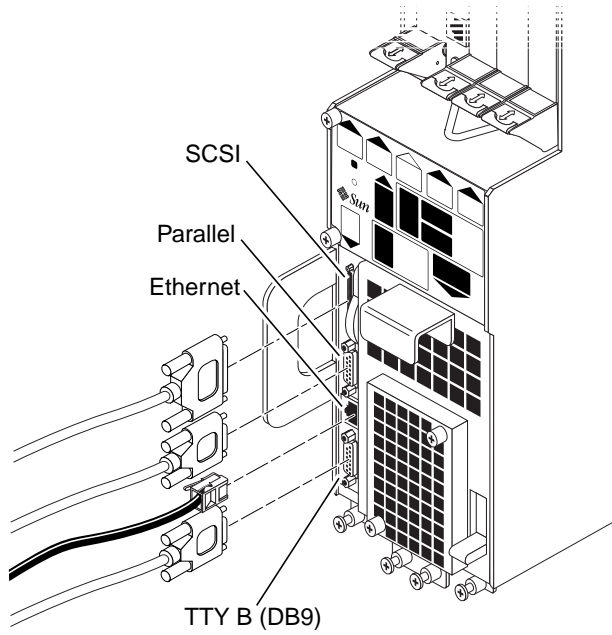

FIGURE 4-7 Connectors on the CPU Front Transition Card (Netra ct 400 Server)
- CPU front transition card, Netra ct 400 server—FIGURE 4-7